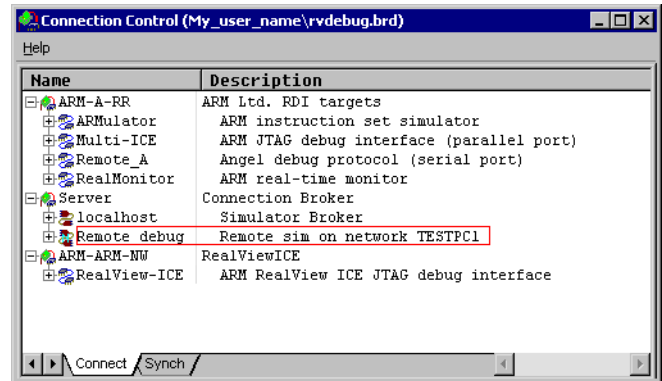

Figure 6-5 Remote target in the Connection Control window
The new target is added to the Connection Properties window (see Figure 6-5 on page 6-9).
1. Display the Connection Control window to see the new remote connection, shown in Figure 6-5.